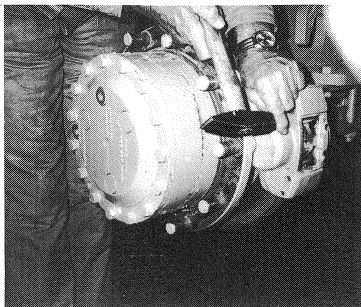

Fig. 53
- (1) Dismount the wheel.
- (2) Remove cover plate from caliper.
- (3) Expel upper locking pin by means of a drift (Fig. 53).